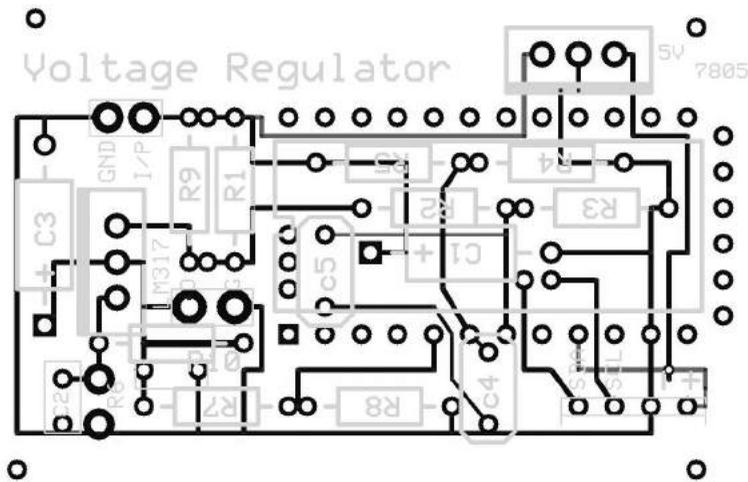

Figure 3-8: The PCB shield used in the Regulated Power Supply. Black is the top layer, dark gray is the bottom layer, and light gray is the silkscreen layer.
15. Insert a 6.8 kilohm, 1% tolerance resistor, and connect one side to the blue negative rail. This is resistor R3; the other side will connect to resistor R2. See Figure 3-8 for a top view of the breadboard.
While the circuitry is not overly complex, using a shield will simplify many of the connections for driving the LCD and constructing the voltage dividers, and it will make the assembly of the Regulated Power Supply easier than point-to-point wiring. Figure 3-8 shows the shield I designed, though you could also design your own, of course. The PCB file is available at <https://www.nostarch.com/arduinoplayground/>.